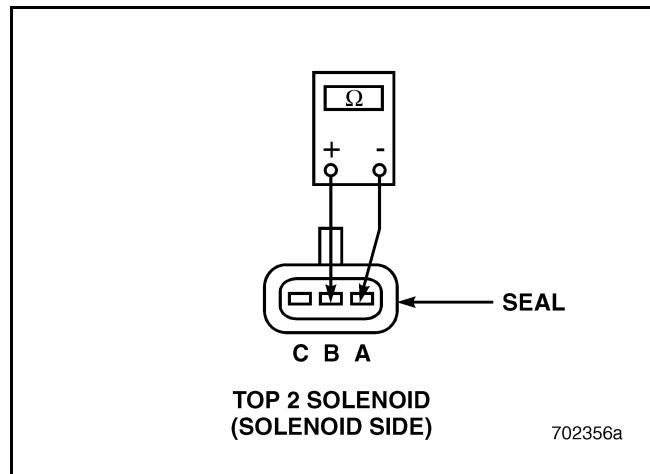

Figure 475
2. Check for continuity between pins A and B on the solenoid side of the Top 2 solenoid valve connector (see Figure 475).